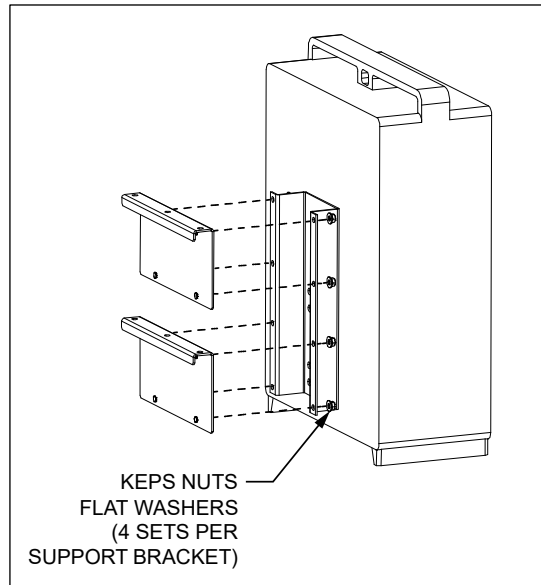

Figure 10 Attach Radios to Support Brackets
2. Attach each radio bracket to two support brackets (Figure 10).